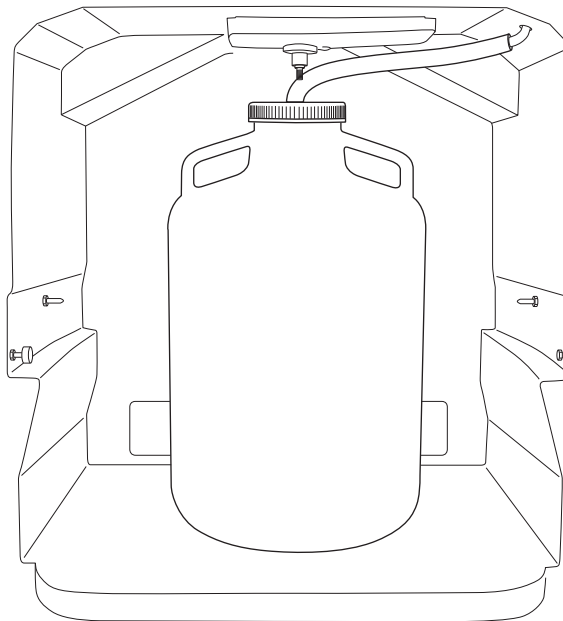

Figure 2-7 One 20 liter bottle configuration with discharge tube through the bottle cap
6. Feed the discharge tube into the hole (PE only) (see Figure 2-7).